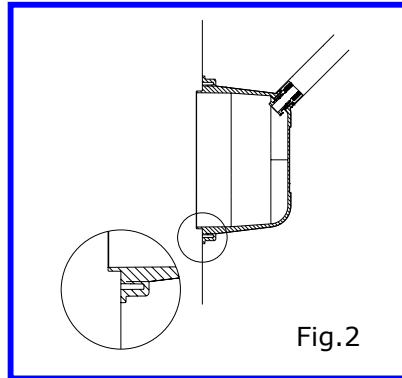

Fig. 2
- Fix the niche (item no. 5) in the wall of the swimming pool, by keeping the cable outlet in the upper direction (Fig. 2)
- Install the niche in a way that the finished wall lines up with the flange of the niche (Fig. 2). Make sure that the holes remain free from concrete or other dirt